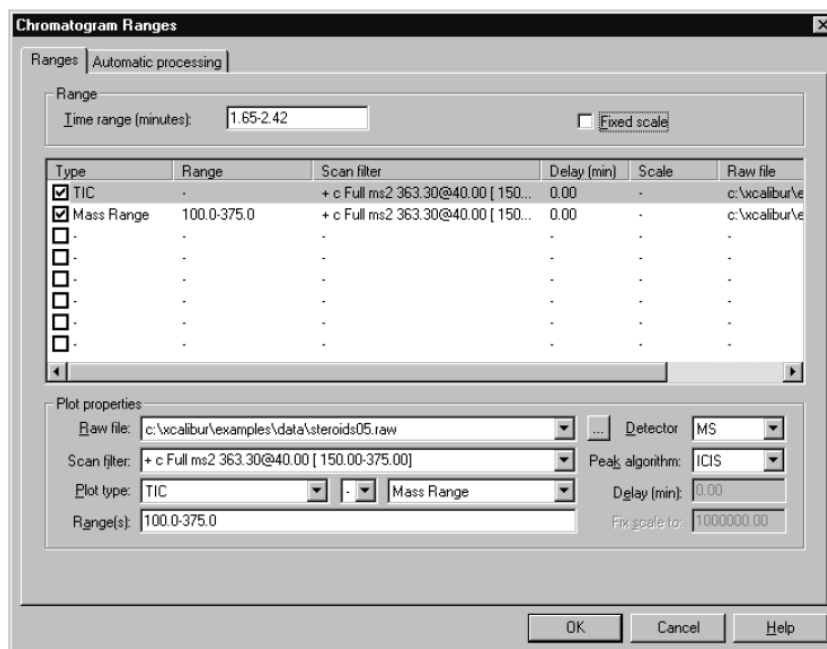

Figure 20. The Ranges page of the Chromatogram Ranges dialog box.
- 8.2.3.18.4. Disconnect the PEEK tubing connection between the ground fitting holder and LC Tee union. Connect an appropriate length of PEEK tubing with Fingertight fittings from port 3 of the Divert/Inject valve to the grounded fitting holder (See Figure 20).
- 8.2.4.6.1.4. Specify the chromatogram ranges to display the chromatogram. Right-click on the cell (with the chromatogram active or pinned) and select the Ranges option from the popup context menu. The Chromatogram Ranges dialog box appears as shown in Figure 20.